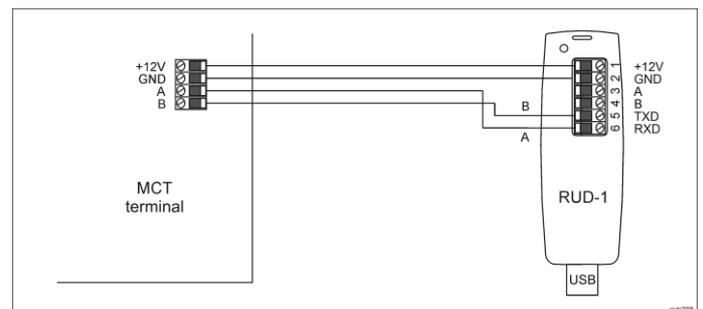

Fig. 2 Connection of MCT reader to RUD-1 interface (firmware update)
The firmware of device can be changed to newer or older version. The update requires connection to computer with RUD-1 interface (fig. 2) and starting RogerVDM software. The latest firmware file is available at [www.roger.pl](http://www.roger.pl).
1. Connect the device to RUD-1 interface (fig. 2) and connect the RUD-1 to computer's USB port.